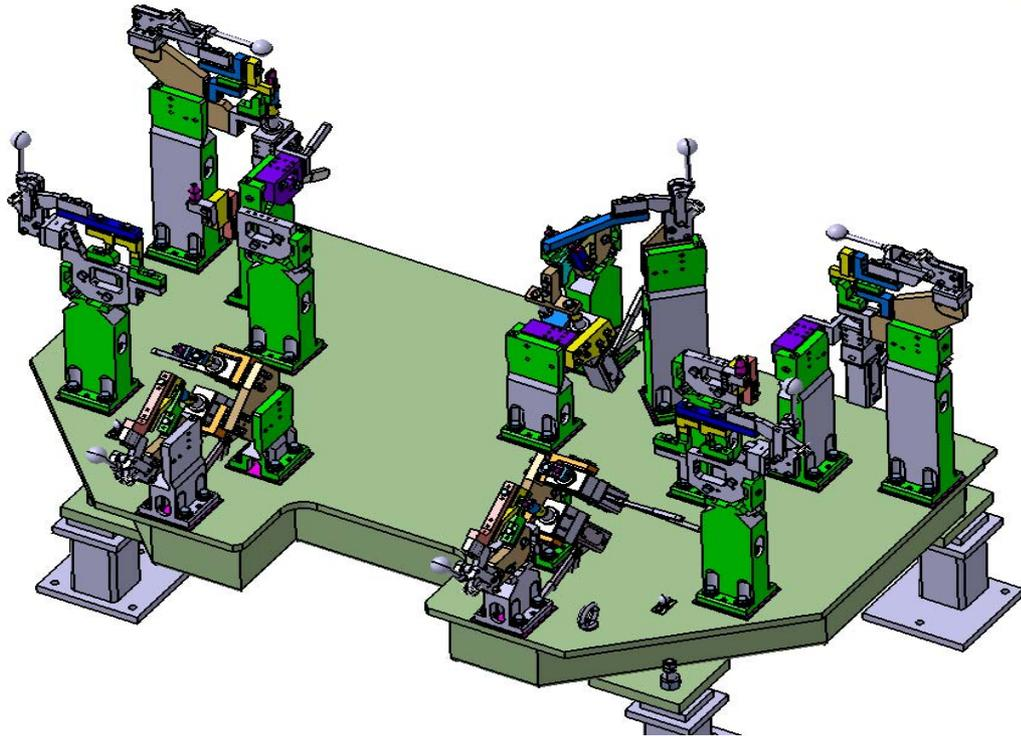

Fig. 4. Straight station with adjustable legs
- **straight station with adjustable legs** - this must be adjusted with the air bubble so that the maximum deviation from the plane is ± 0.1 [mm], (fig.4);